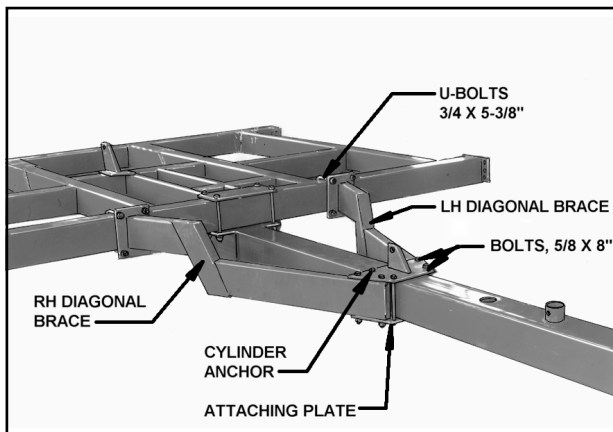

Figure 3-4 - Attaching Diagonal Braces
- 3-4.6** Install right and left diagonal hitch braces to frame with four 3/4" x 5-5/8" U-bolts, lock washers and nuts (**See Figure 3-4**).
- 3-4.7** Install attaching plate and cylinder anchor to hitch and diagonal braces with eight 5/8" x 8" cap screws, lock washers, nuts (**See Figure 3-4**).